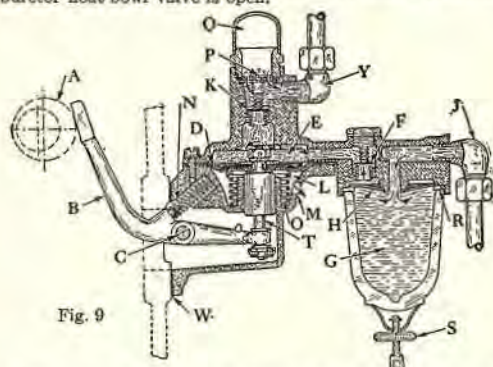

Fig. 9
Test of pump off of the engine: When the previous tests fail to show the trouble, remove pump and take it to the work bench for test and examination as follows: (1) attach two pieces of rubber hose to the outlet and inlet of the pump, and move pump lever in and out. Gasoline should spurt out of hose attached to outlet opening in approximately fifteen strokes; (2) if not, examine check valves F and K, Fig. 9. Clean the valve seat and the springs, and replace the disc valves, glossy side down. Be careful not to scratch or mar valve seats while cleaning. Use new gaskets under valve retaining nut U, and air dome Q. Draw them up tight; (3) examine vent hole M; (4) test the pump with two pieces of hose and a pail of gasoline, as previously described; also by holding a wet finger alternately on the inlet and delivery openings while working the lever.